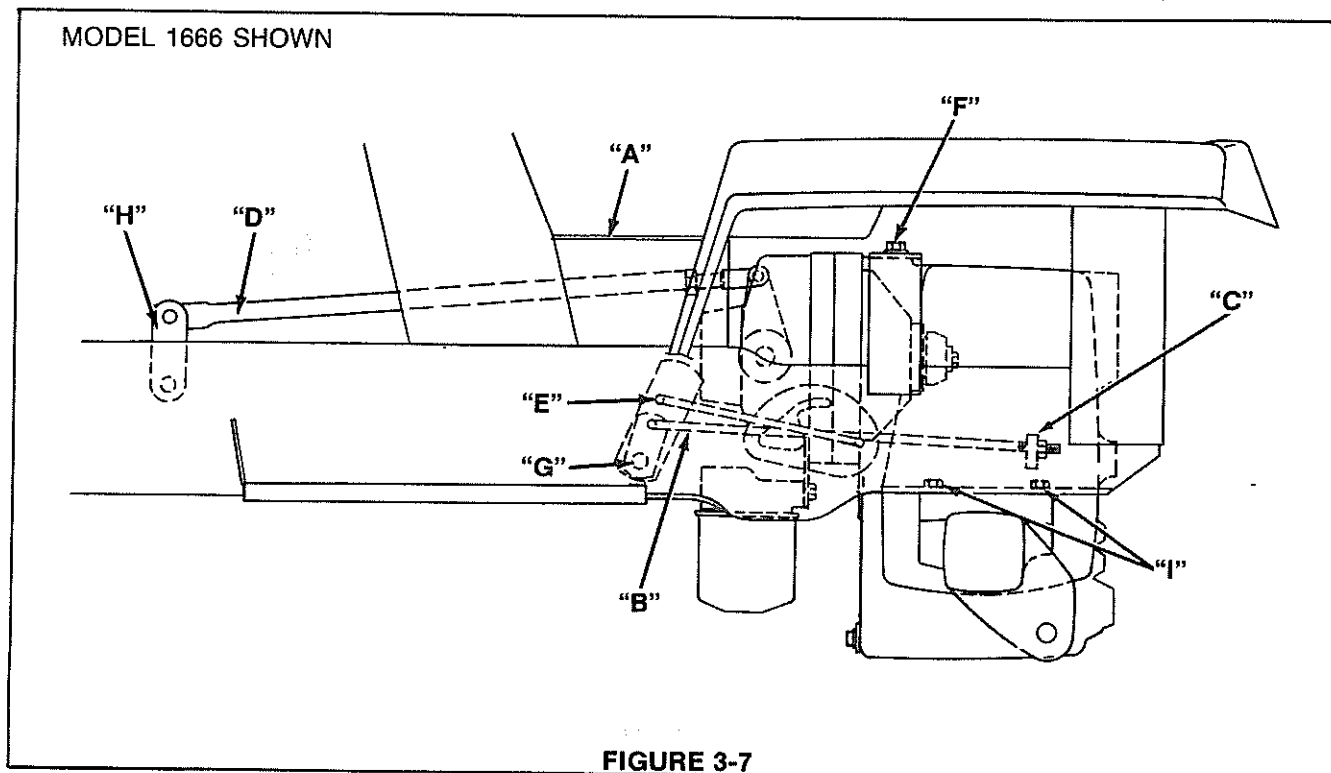

FIGURE 3-7
2. Remove tunnel (A) Figure 3-7.
5. Disconnect two brake arms (B) from brake cross shaft.
6. Remove right hand and left hand brake arm extensions (C) (2 bolts each).
9. Remove cotter pin and washer and disassemble control rod (D) from the foot pedal shaft.
10. Disconnect rod (E) from lock plate to brake cross shaft at cross shaft.
12. Remove the two top mounting screws (F).